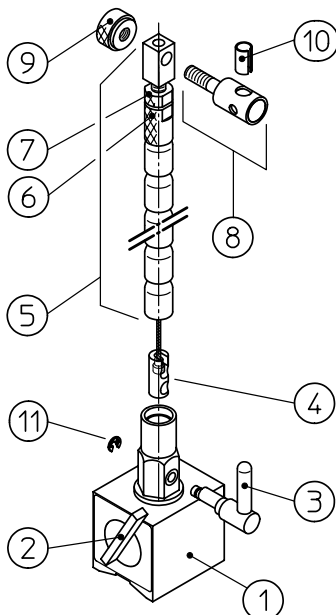

Fig. 1
2. Name of each part (see Fig. 1)
| 02AZC410 | Post assemble | One set of (including and) of Fig.1 |
- Remove parts , , and shown in Fig.1.